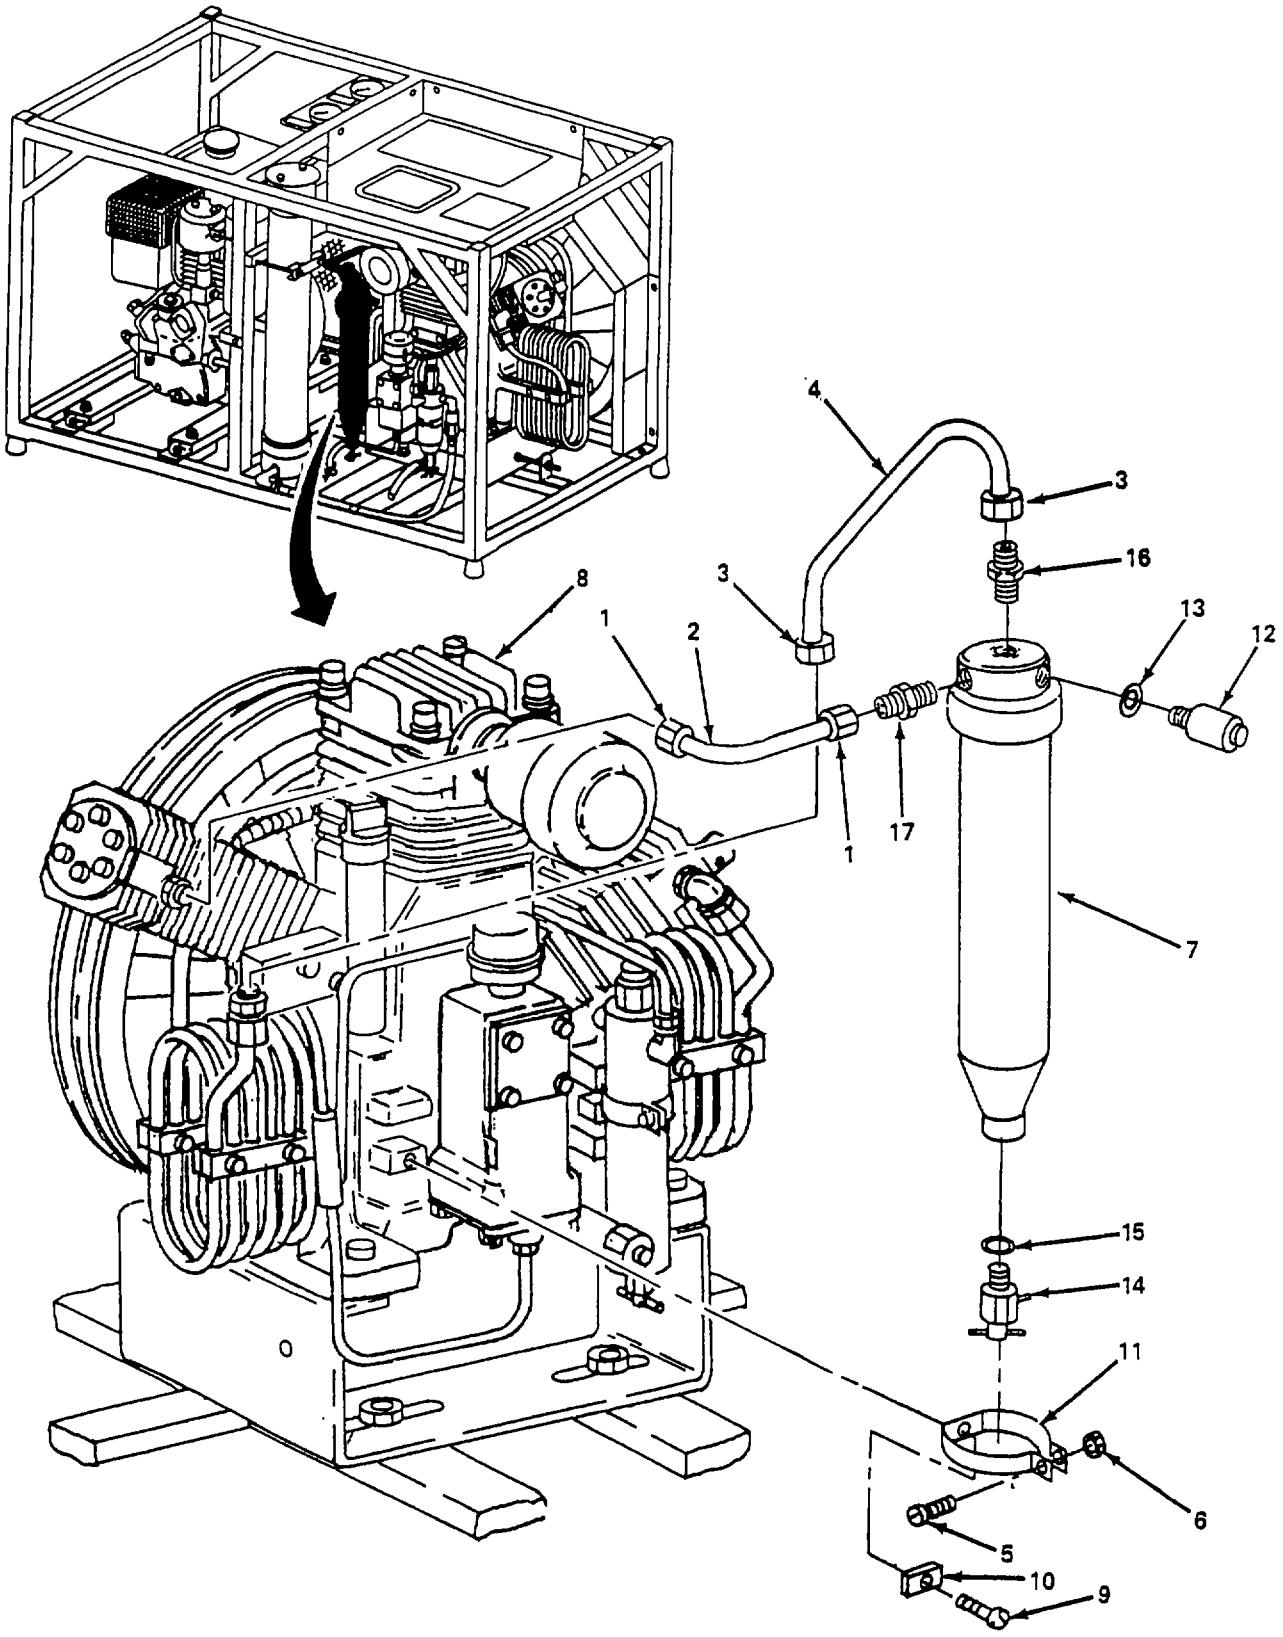

Figure 5-8. Second Stage Separator Assembly, Replace.
- a. Replace. (figure 5-8)
- (1) Loosen two connector nuts (1) and remove discharge tube (2).
- (2) Loosen two connector nuts (3) and remove separator inlet tube (4).
- (3) Remove bolt (5) and nut (6) and remove separator (7) from compressor (8).
- (4) Remove bolt (9), plate (10) and remove clamp (11).
- (5) Remove safety valve (12) and seal (13).
- (6) Remove drain valve (14) and seal (15).